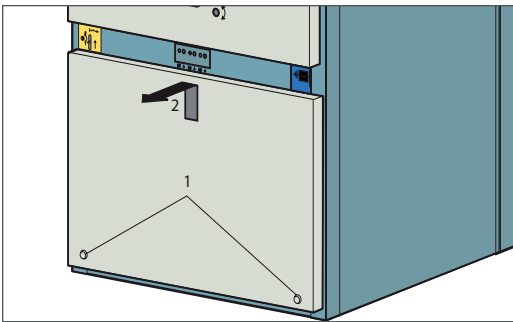

Fig. 4.1
- Release the securing bolts of the cable compartment cover (Fig. 4.1, 1).
- Lift and remove the cable compartment cover (2).